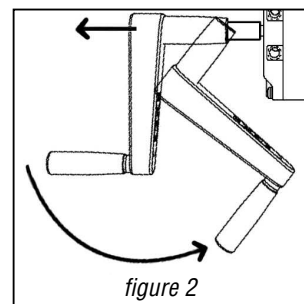

figure 2
- 3) Gently pull handle from locked position and lower until relaxed. (see *figure 2*).
- 3) Gently pull handle from locked position and lower until relaxed (see *figure 2*).